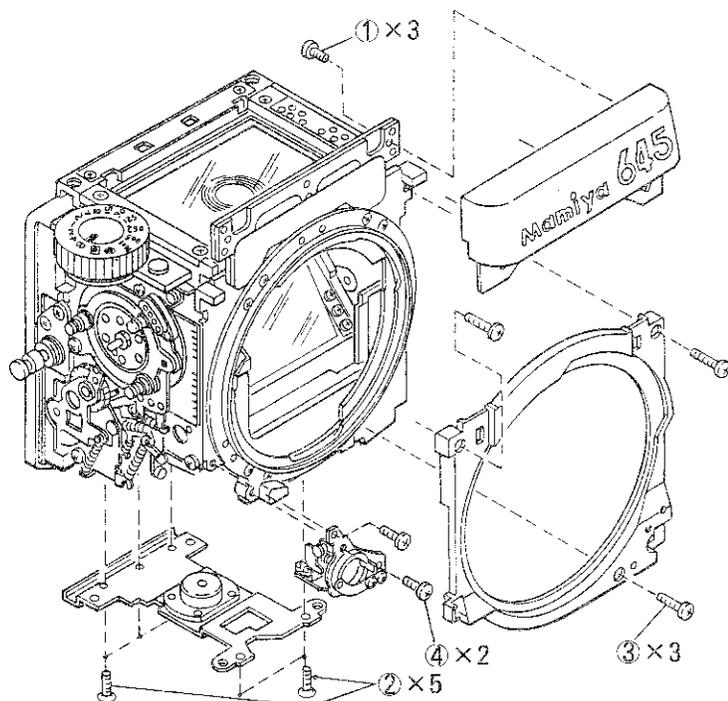

Fig. 43
2. Remove ① to ③ in the numerical order as illustrated above (Fig. 43).